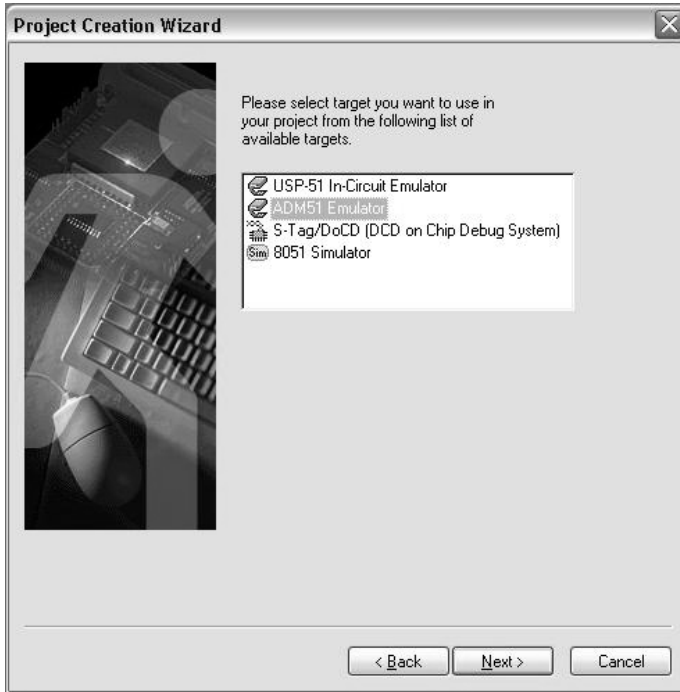

FIGURE 4 Target selection list.
7. When asked to provide the name and optional comment for your project, enter them and click Next. Browse for, or type, the name of the project directory for all project-specific files. Be careful not to use the debugger installation directory as the project directory. Click Next. A list of available targets appear. Select ADM51 Emulator (Figure 4) and press the Next button.